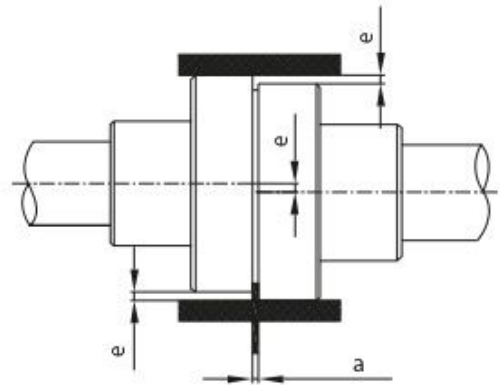

Figure 9. Aligning a flexible coupling
- A metal part (steel ruler or gauge, etc.) and a precise caliper are required to perform coupling adjustment (special equipment should be used for very fine and precise adjustment). Axial run-out of the coupling (see Figure 9) should not exceed 0.1 mm.